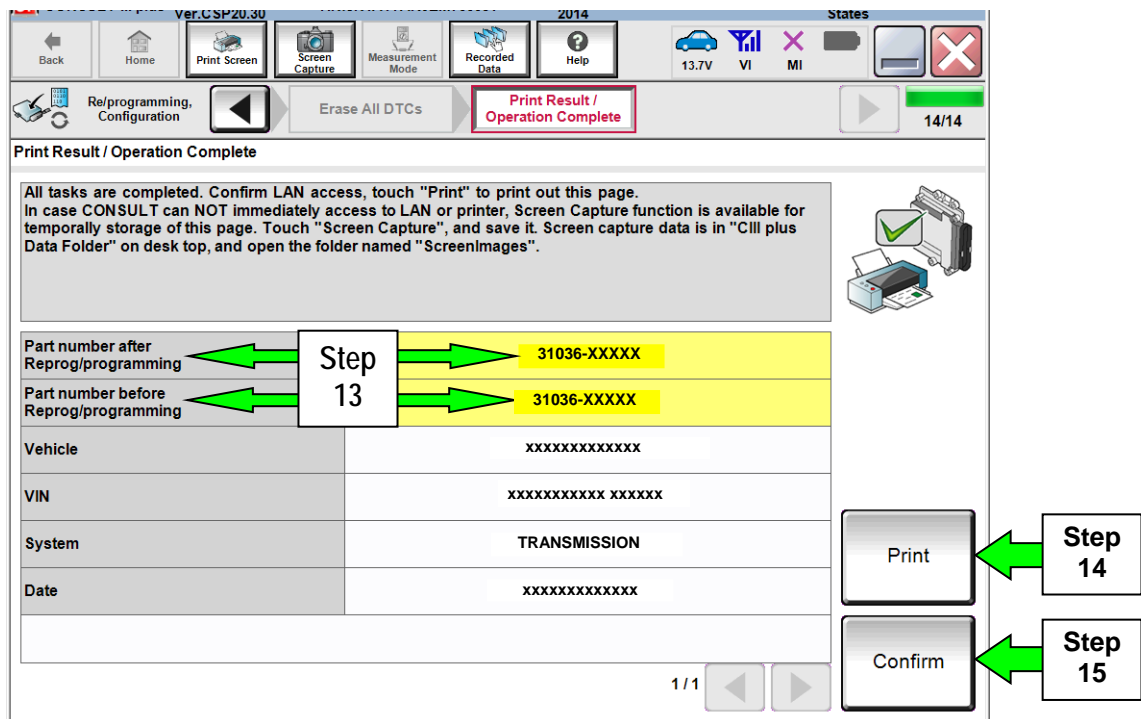

Figure 7A
12. When the entire reprogramming process is complete, the screen in Figure 7A will display.
14. Print a copy of this screen (Figure 7A) and attach it to the repair order for warranty documentation.